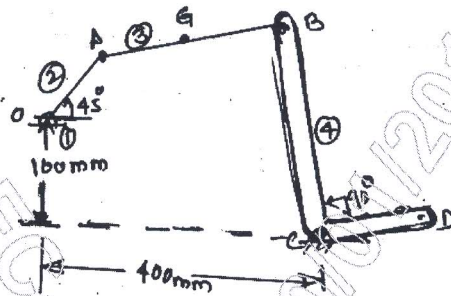

Fig.Q3(b)
b. The mechanism shown in Fig.Q3(b) has following dimensions $OA = 100\text{mm}$, $AB = 280\text{mm}$, $BC = 240\text{mm}$ and $CD = 120\text{mm}$. The centre of gravity of link AB is located at a distance of 120mm from A. Determine the velocity of G, D and angular velocity of link AB and the bell crank lever BCD. The crank OA rotates uniformly at 30 rad/sec . Use instantaneous centre method. (12 Marks)